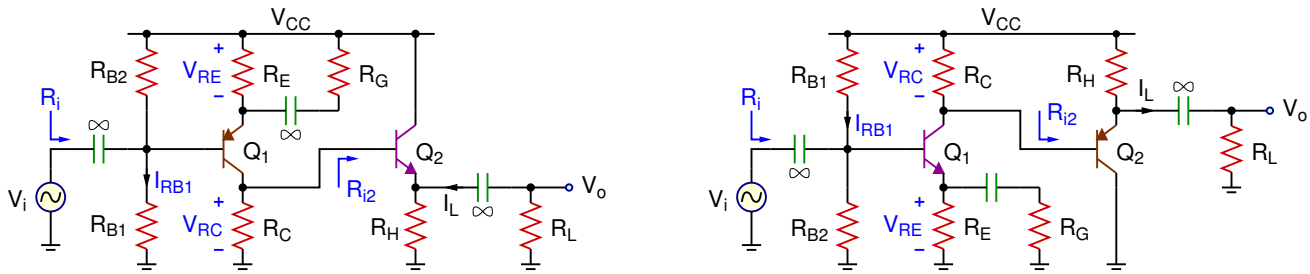

Figure 1: Two-stage BJT amplifier
Figure 1 shows two versions of two-stage amplifiers composed of a gain stage and a buffer. Assuming $R_{i2} \ll R_C$, the maximum available gain for these circuits can be determined as V_{RC}/V_T when R_G is zero. The gain can always be reduced by increasing R_G , but cannot be increased beyond $A_{v,max} = V_{RC,max}/V_T$, where $V_{RC,max} = V_{CC} - V_{RE} - \hat{V}_o - |V_{CE,sat}|$. Therefore, if the gain specification is higher than $A_{v,max}$, an extra gain stage is needed. The buffer stage is usually necessary when the load resistor is small, i.e., a few hundreds of ohms or smaller. Driving such a low resistance directly from the amplifier stage significantly reduces the gain or requires a gain stage with a very high power dissipation.
Assuming that one gain stage followed by a buffer is sufficient for the design requirements, the circuits in Fig. 1 can be used as a starting point. Typical specifications include, but not limited to:
Using one of the circuits in Fig. 1, the design procedure can be given as follows:
- The output voltage is a sine wave with the amplitude \hat{V}_o , therefore the maximum value of I_L in Fig. 1 is \hat{V}_o/R_L . When I_L reaches its maximum level, the voltage drop on R_H reaches its minimum. Since I_{E2} is always a positive current (leaving the emitter for NPN, or entering the emitter for PNP), the current on R_H must always be larger than I_L to avoid current clipping. Therefore, R_H should be chosen such that
Design a BJT amplifier based on the specifications provided in the table below. Your design should be insensitive to β variations, and both the input and the output should be AC coupled as in Fig. 1.